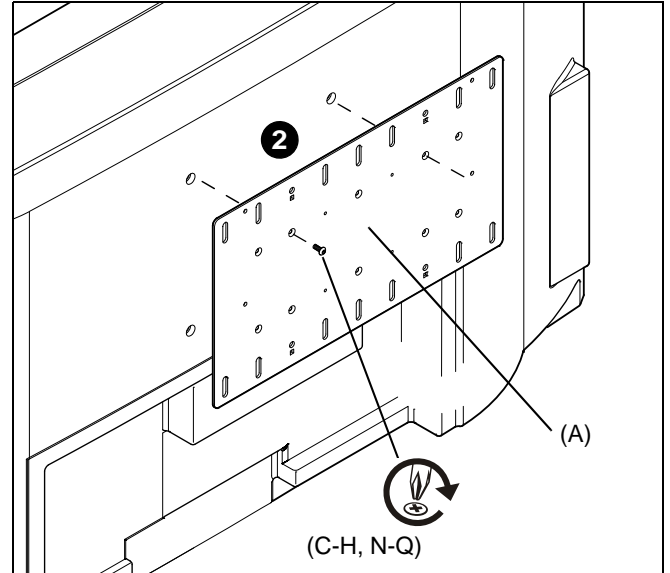

Figure 2
2. Attach Interface Bracket (A) to display using appropriate screws (C-H, N-Q). (See Figure 2)